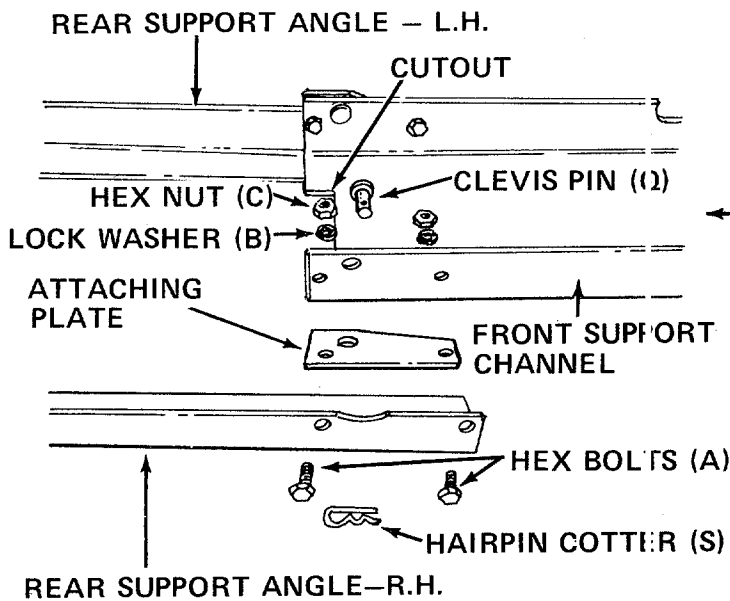

FIGURE 4
- A. Place the front support channel on work bench or the floor. Place the rear support angles in position against the end of the front support channel which has the cutout as shown in figure 4.
- B. Place the attaching plates between front support channel and rear support angles. Hold in place with clevis pins (Q) and hairpin cotters (S). See figure 4.
- C. Place hex bolts (A) through holes in side of rear support angles, attaching plates and front support channel. See figure 4.
- D. Secure hex bolts (A) with lock washers (B) and hex nuts (C). **Make only finger tight.** See figure 4.